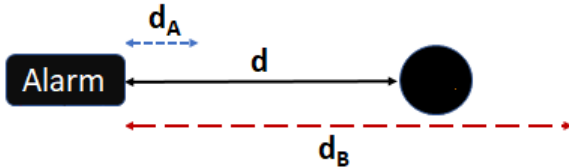

FIG. 2. An illustration of the configuration of the alarm and the user (represented by a black disk) during the motion-based task.
- In the task, the user is required to move across a point at a distance  $d \leq d_A$  (down to a minimum of 2 cm) and one that is  $d \geq d_B$  away (up to a maximum of 4 m) for  $N$  times under time  $T_S$  (up to a maximum of 59 seconds). These limits ( $\pm 3$  mm) for  $d_A$  and  $d_B$  are based on the specifications of the ultrasonic sensor. See FIG. 2 for an illustration of the geometry. The timer for the task is initiated by the user's approaching the alarm down to  $d \leq d_A$ . The user is prompted to retry up to 100 times or until the task is completed under the time limit  $T_S$ .